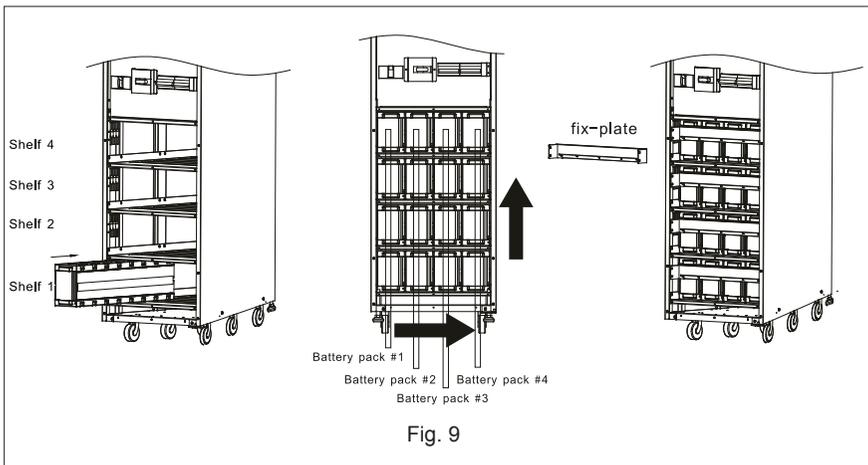

Fig. 9
4. Put the battery packs into the enclosure from left to right and bottom to top and cover each shelf with a fix-plate (see Fig. 9) (please refer to Fig.4 for corresponding battery packs).